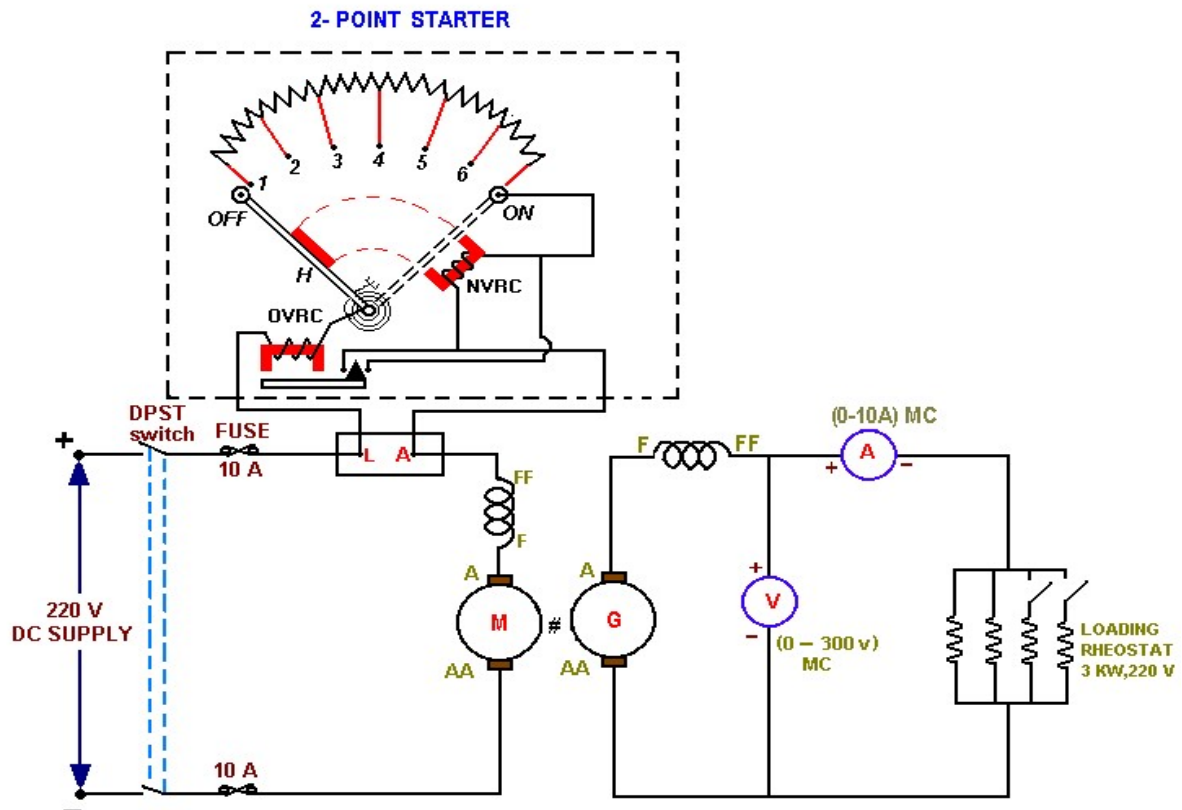

Fig 3.1
1. Make the connections as per the circuit diagram (Fig.3.1).